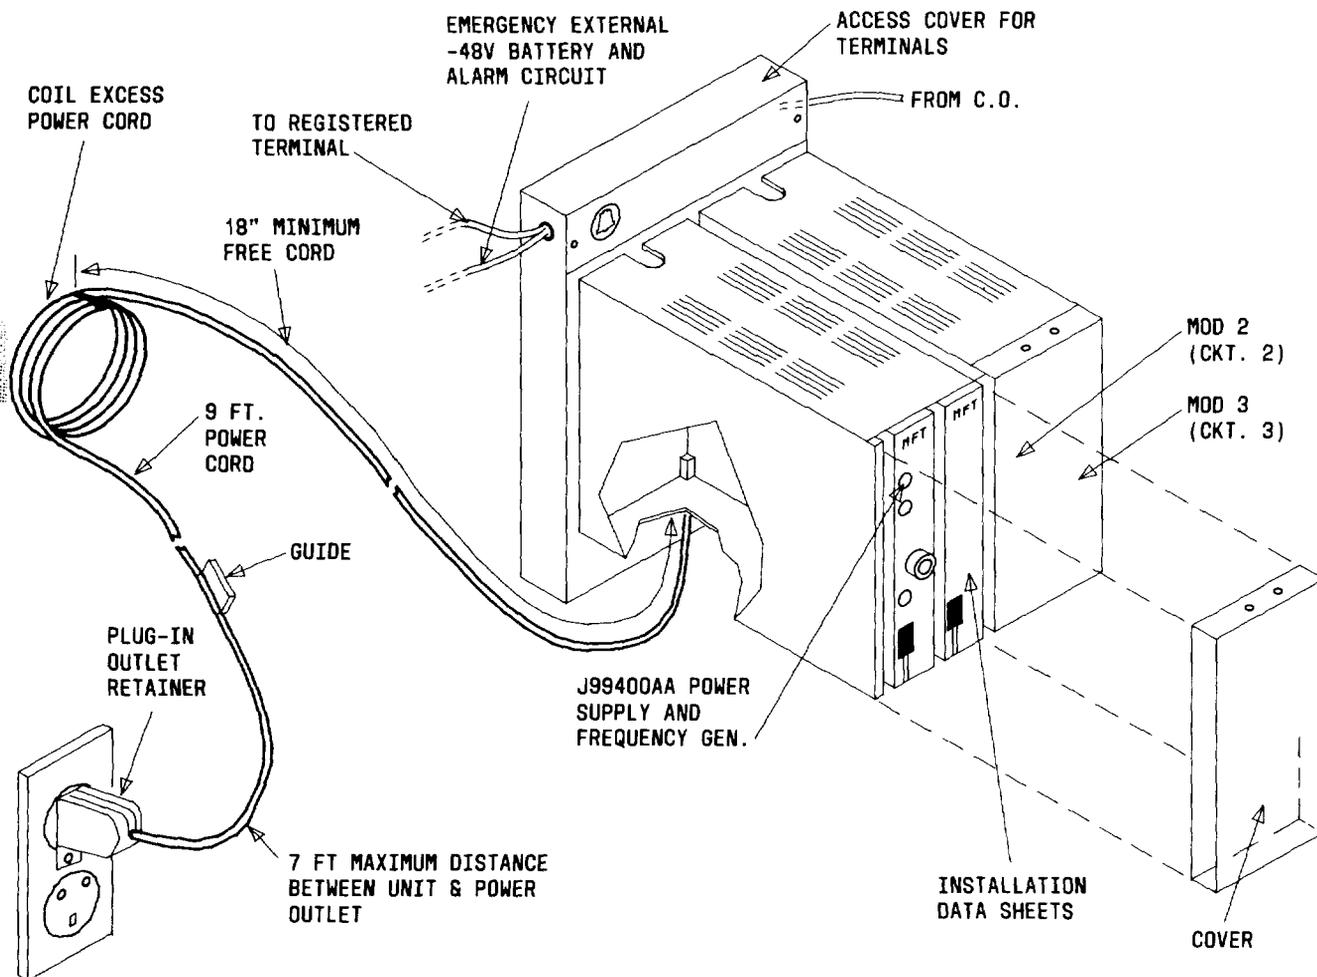

Fig. 1—Typical Layout of J99400A Housing Assembly
2.03 This housing consists of three subassemblies which are shown in Fig. 1. These subassemblies are the aluminum mounting backplate and two modified J99380N plug-in housings.
2.05 There are two J99380N housing assemblies mounted on each mounting backplate. As shown in Fig. 1, the left-hand housing contains the J99400AA Power Supply/Frequency Generator and ED-7C223 Group 1 Installation Data Sheets. The right-hand J99380N housing provides mounting slots
2.09 This assembly contains installation instructions for the J99400A assembly and J99400AA power unit. The data sheets are packaged on an MFT circuit pack frame that slides into the appropriate mounting slot as shown in Fig. 1. This assembly consists of an MFT card holder frame and shield with an attached 2-ring loose-leaf binder. The installation information contained on these sheets is also given in Section 332-610-201.